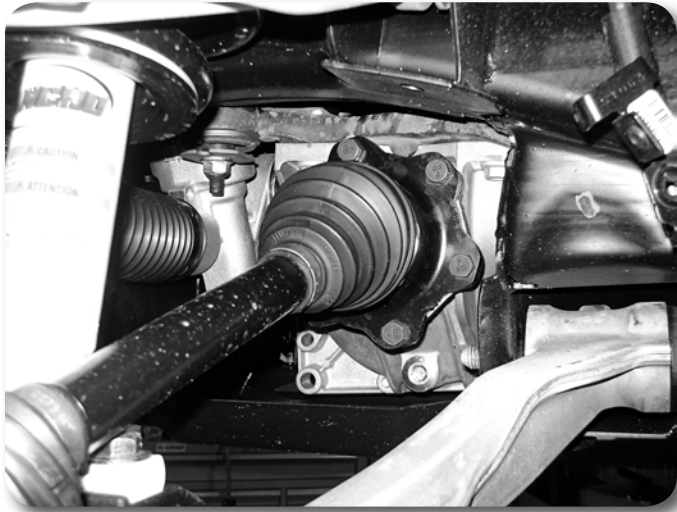

Figure 9
14. Remove the CV shaft mounting flange bolts (6 per side) **Figure 9**. Mark the shaft to indicate driver's or passenger's side. Bolts will not be reused.